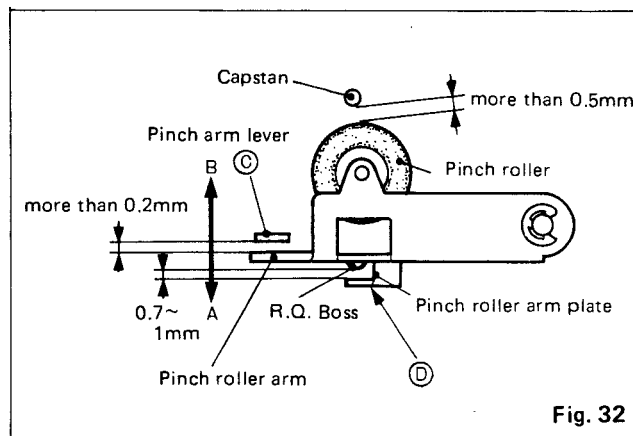

Fig. 32
1. Adjust the pinch arm lever bent portion ③ in Fig. 32 so that the distance between the pinch roller and the capstan are 0.5mm or more when depressing the PAUSE button.
2. Should the reel disc in the winding side stop rotating sooner than that on the feeding side while depressing the PAUSE button, thus allowing the tape to exit between the heads, bend pinch arm lever portion ③ in direction A.
1. Should the tape exit between the heads when starting to cue or review, bend pinch arm lever portion ③ in Fig. 32 in the A direction.
2. Should abnormal fast-forwarding be detected when starting to cue or review, bend pinch arm lever portion ③ in Fig. 32 in the B direction.
3. After completing adjustment, depress the REWIND button while recording (namely, with both the RECORD and PLAY buttons depressed) and confirm that a distance exceeding 0.2mm exists between the pinch arm lever and the pinch roller arm. Adjust bending of portion ④ in Fig. 32 so that the distance between the RQ boss and the pinch roller arm plate is 0.7 to 1.0mm when depressing the PLAY button.